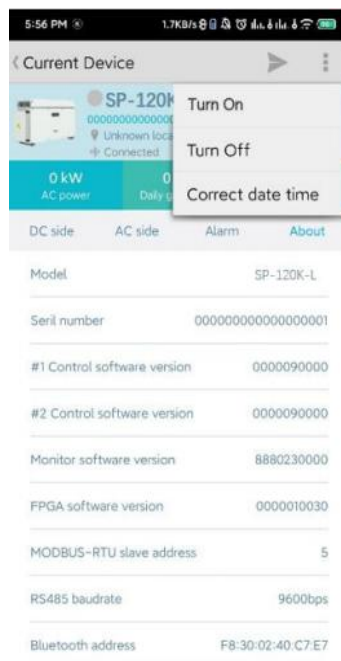

Figure 5-13 Power-on/off command menu
- (1) To send a command to the device, you can tap  in the upper right corner to select the power-on command or power-off command to be sent, as shown in Figure 5-13.